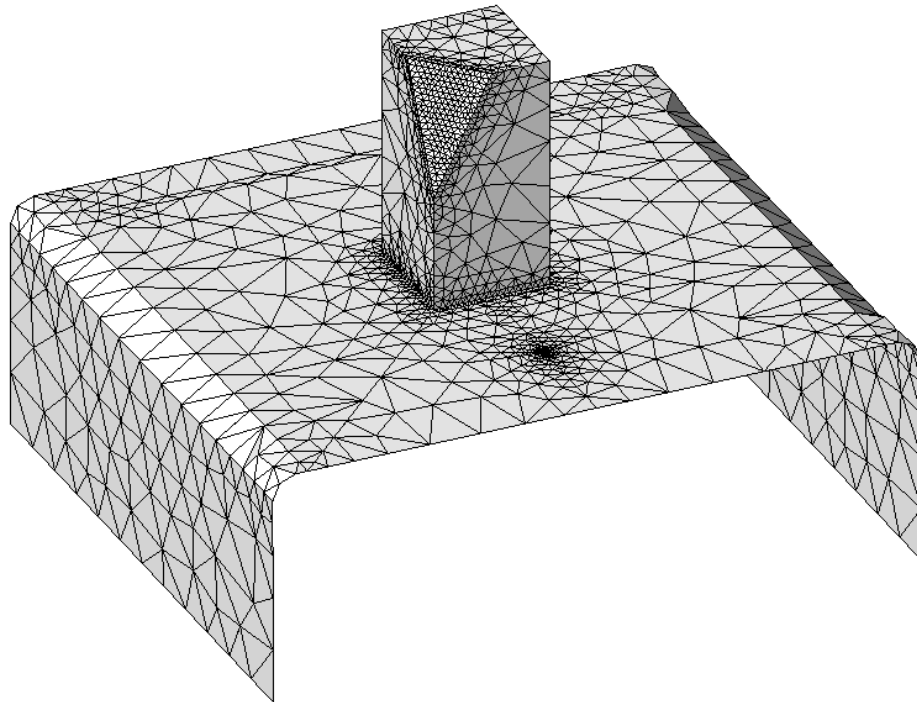

Figure 8. Mesh with a concentration of elements on a surface.
- 7 . This results in a high concentration of elements on the chosen surface due to the value selected (0.5) (see Figure 8).